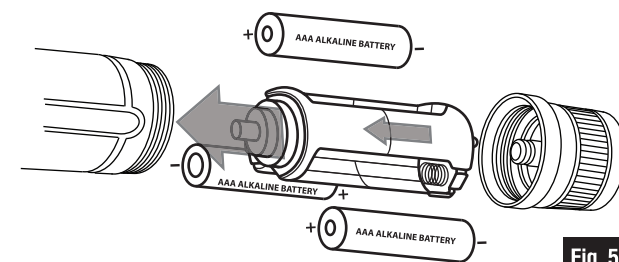

Fig. 5
**AAA BATTERY HOLDER:** This is an alternative power source which requires 3 AAA alkaline batteries (not included). **Always install batteries with the “-” end facing the large spring end of each battery slot in the battery holder as shown** (Fig. 5). Failure to insert batteries correctly could damage the LED module and/or the tailcap electronics. Insert the battery holder in the flashlight with metal post (Fig. 5) **pointed toward the head of the flashlight.**